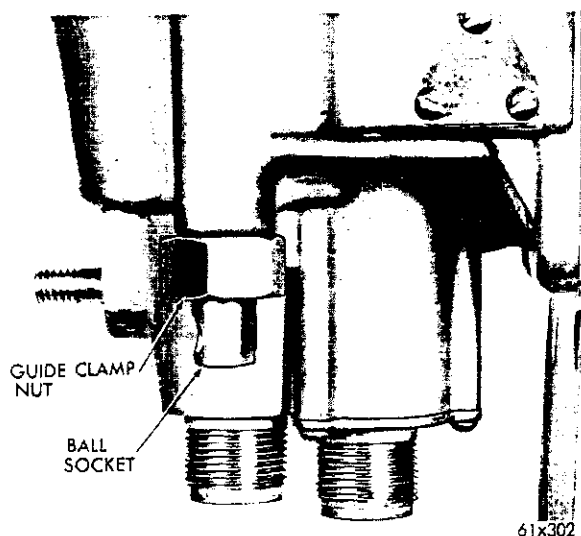

Fig. 55—Install the Ball Socket on the Compressor Rod
(15) Route the red motor wire **under** the pintle shaft, loop the wire back over the pintle shaft and connect the wire at the bottom of the contact point #1. Attach it with a screw and washer.
(16) Connect the green motor wire to the single connector on the terminal block.
(17) Install the compressor rod guide in the housing with the dimple in the rod guide facing the finger assembly.
(18) Install the guide clamp nut on the housing and tighten.
(19) Lubricate the compressor rod with MoPar Lubriplate and install the compressor rod in the guide. Install the governor spring.
(20) Install the ball socket on the end of the compressor rod. While holding the housing in an upright position, tighten the ball socket until it touches the bottom of the guide clamp nut (Fig. 55).